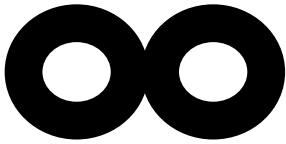
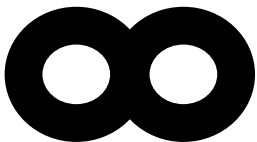

Fig. 1: CORRECT OVERLAP with Angle Knob at 7 o'clock Position.
Fig. 3: INCORRECT OVERLAP with Angle Knob at 7 o'clock Position.
2. Turn Angle Knob clockwise until indicator mark is at 7 o'clock position. If HW1000 or HW1500 Honing Wheels overlap 1/16" or LESS (Fig. 1) turn Angle Knob counterclockwise until indicator mark is at 4 o'clock position between White & Blue Dots & begin Step 5.
3. If HW1000 or HW1500 Honing Wheels are NOT OVERLAPPED (Fig. 2) with Angle Knob indicator mark at 7 o'clock position, turn Angle Knob counterclockwise one revolution until indicator mark is at 7 o'clock position. Repeat this step until overlap is 1/16" or LESS (Fig. 1) with Angle Knob indicator mark at 7 o'clock position. Turn Angle Knob counterclockwise until indicator mark is at 4 o'clock position between White & Blue Dots & begin Step 5.
4. If HW1000 or HW1500 Honing Wheels overlap MORE than 1/16" (Fig. 3) with Angle Knob indicator mark at 7 o'clock position, turn Angle Knob clockwise one revolution until indicator mark is at 7 o'clock position. Repeat this step until overlap is 1/16" or LESS (Fig. 1) with Angle Knob indicator mark at 7 o'clock position. Turn Angle Knob counterclockwise until indicator mark is at 4 o'clock position between White & Blue Dots & begin Step 5.